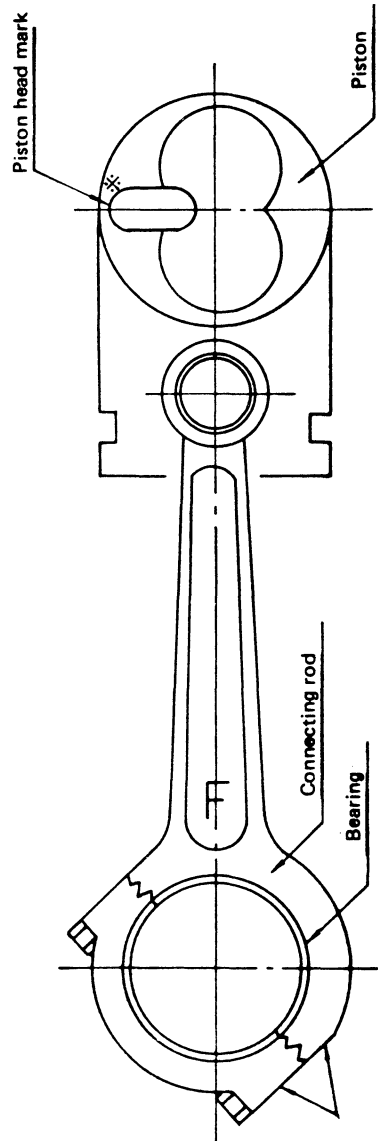

Figure 23
1. Heat the piston up to 158°-212° F (70-100°C) and install the rod and pin. Make sure that the piston head mark and the connecting rod "F" mark are set as shown in Figure 23. Alignment marks of figures are inscribed on the connecting rod.